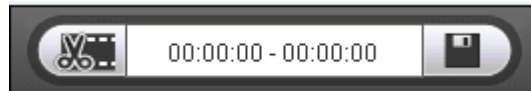

Figure 4-7
Step 5. Click on Save button to save file cut to path in Ch 5.1.2.5. See Figure 4-7.